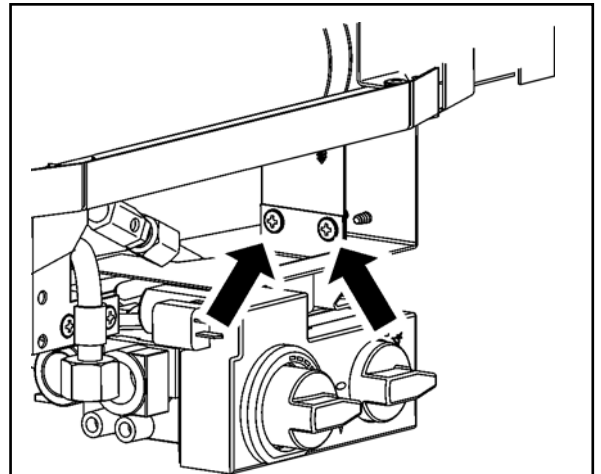

Figure 35. Gas valve shield removal.
2. Unscrew and remove the two screws from the gas valve shield (See figure 35). Place the shield to one side.